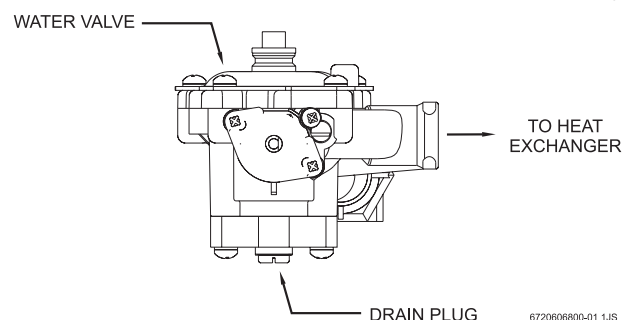

Fig. 1 - Water heater drain plug
5. This product is neither designed nor approved for outside installations. This product is not approved for manufactured homes (mobile home), recreational vehicles (RV) or boats. Reference ANSI Z21.10.3.
**Drain the heater entirely if freezing temperatures are anticipated in area where heater is installed by disconnecting both the inlet and outlet water connections from the heater (disconnect the outlet flex line from where it connects to the copper heat exchanger). Additionally remove the drain plug under the water valve. See Fig. 1.**